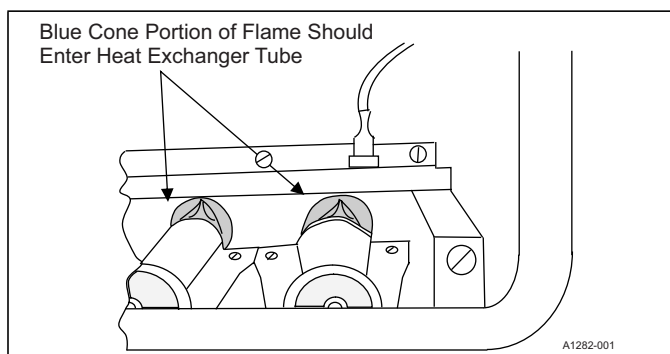

FIGURE 7: Burner Flame Drawing (Upflow Configuration Shown)
6. Examine the burner flames to make sure they are in good adjustment. Refer to the pictorial sketch shown in Figure 7 as a comparison to the actual flame.
3. Check that the ON/OFF switch on the gas valve is turned to the ON position. Refer to Figures 7, 8 or 9.